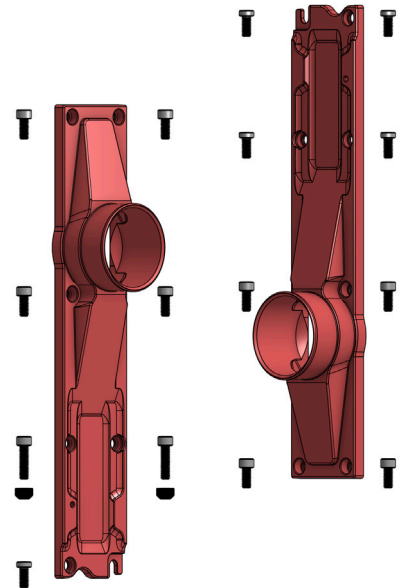

fig. 6
- 20 Clean the head to plenum surface and remove the protective rags. Install the plenums on each head using the included hardware. Use the 18mm long, standard-profile head bolts in the deeper bolt holes and the 18mm long, low-profile head bolts in the shallower bolt holes. If you have a GPR/AIH Relay bracket, insert two (2) deep countersink spacers at the location shown and use two (2) 30mm long bolts to fasten the bracket. (fig. 6)